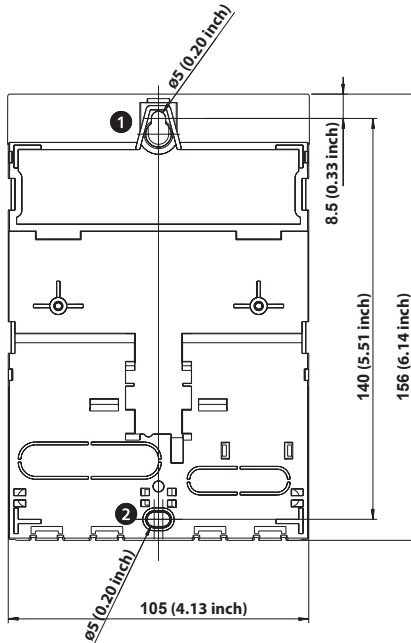

Fig. 2: Rear side of the controller with the upper ❶ and lower ❷ mounting holes
2. Screw in the screw for the upper mounting hole ❶ (Fig. 2) until the screw head has a clearance of 5 ... 7 mm (0.20 ... 0.28 inch) from the mounting surface.
4. Mark the position of the lower mounting hole ❷ through the casing.
6. Hang the controller by the upper mounting hole ❶ and then fasten the screw in the lower mounting hole ❷.